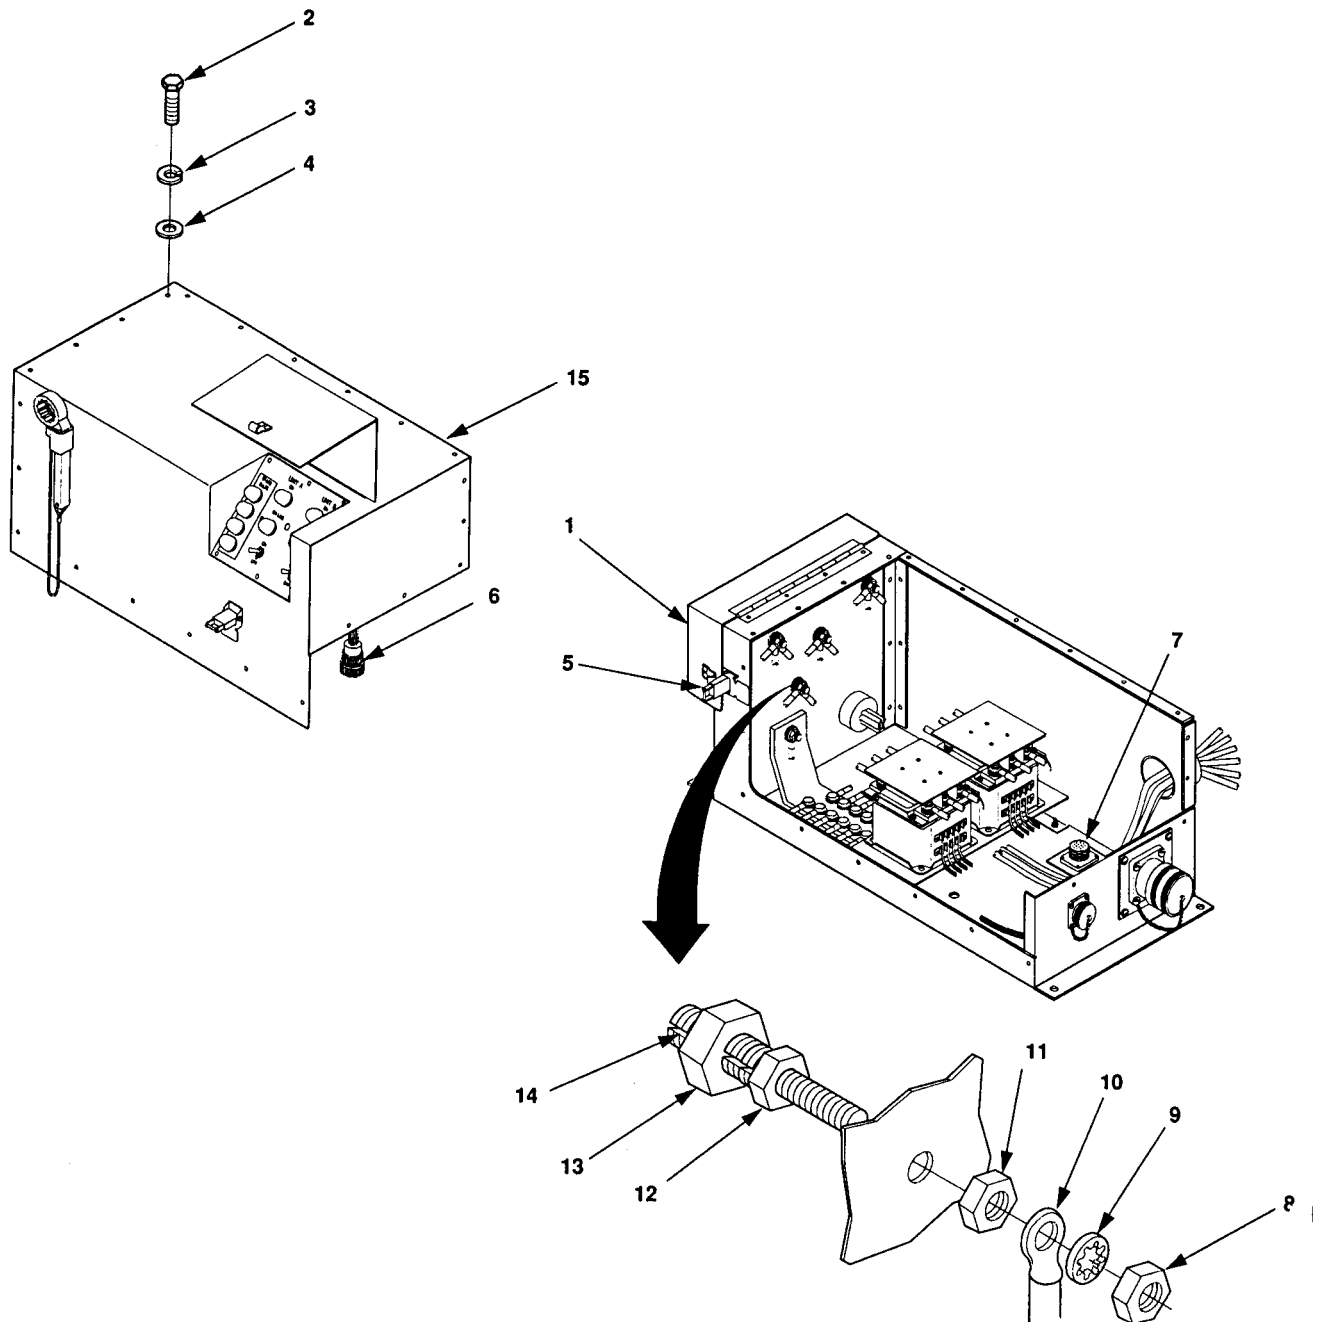

Figure 4-15. Switch Box Load Terminal Maintenance.
1. Remove 21 screws (2, figure 4-15), lock washers (3), and flat washers (4).
2. Release clamping catch (5) and open load terminal door (1).
5. Close load terminal door (1, figure 4-15) and secure with clamping catch (5).